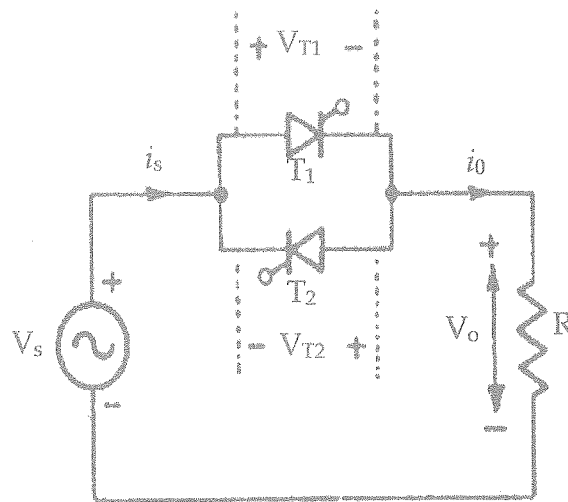

Figure Q4b: AC voltage controller
- b) An AC voltage controller is shown in Figure Q4b. It is connected to a resistive load R of 10Ω . Input voltage V_s is 120 V , 60 Hz . The thyristors are switched ON for 25 cycles and switched OFF for 75 cycles.